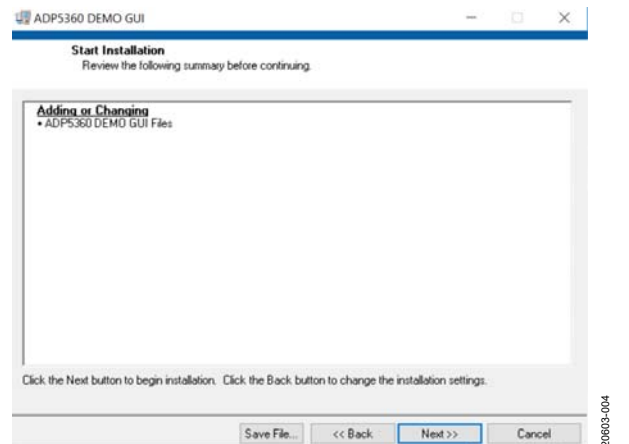

Figure 4. Select Program Folder
3. Click the **Next >>** button to install the program (see Figure 4).